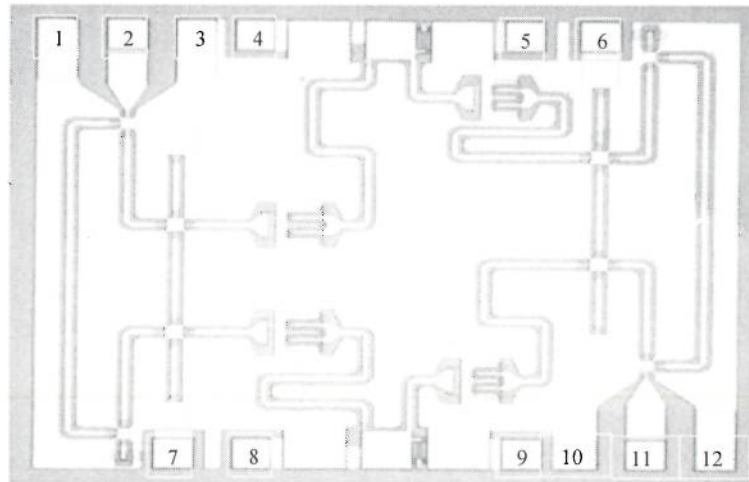

Figure 5.1 Photograph of an MMIC
- a) Draw the equivalent circuit of the MMIC shown in Figure 5.1 and identify the overall circuit and its topology. There are 12 probe pads that have been identified and these must be shown on the circuit. From the circuit, identify a major design flaw in the design of the MMIC.